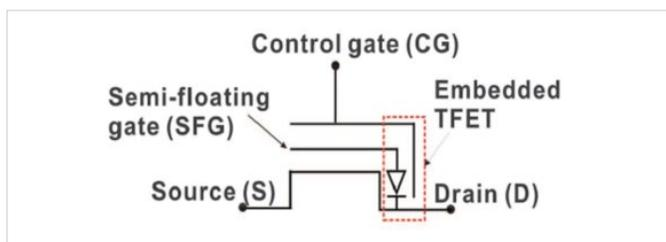

Figure 5: Semi-floating gate memory cell.
New types of transistor technology are emerging and being used with flash memory. **Figure 5** shows a semi-floating gate (SFG) transistor. A p-n junction diode between the floating gate (FG) and drain makes the FG semi-floating. The transistor uses an embedded tunneling field-effect transistor for charging and discharging the semi-floating gate. This transistor operates at low voltages ( $\leq 2.0$  V), with a large threshold voltage window of 3.1 V, and can achieve ultra-high-speed writing operations (on time scales of  $\sim 1$  ns). Therefore, fast pulsing of  $< 10$  ns is needed to test this device. This capability requires using a function generator to achieve the pulse width.